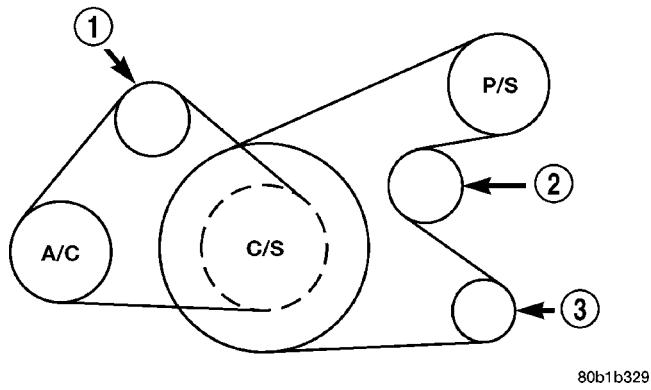

Fig. 5 BELT ROUTING - 2.7L
(7) Using a 1/2" drive breaker bar, apply counterclockwise pressure until locking bolt can be installed.
(8) Install the NEW belt by rotating the tensioner counterclockwise until the NEW belt can be installed on pulleys. See (Fig. 5) for belt routing.
(9) Release tensioner and remove breaker bar. Belt is automatically adjusted with the tensioner's torsion spring.
(5) Install spring, tensioner bracket, and pivot bolt.
(6) Install pivot bolt. Tighten only finger tight, at this time.
(7) Using a 1/2" drive breaker bar, apply counter-clockwise pressure until locking bolt can be installed.
(8) Install the USED belt by rotating tensioner counterclockwise until belt can be installed on pulleys. See (Fig. 5) for belt routing.